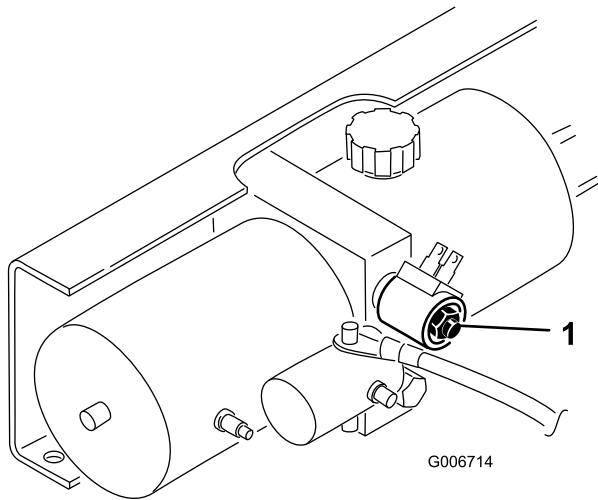

Figure 26
2. Push in red knob on solenoid valve (Figure 26) and rotate 180 degrees counter-clockwise to activate emergency lowering valve.